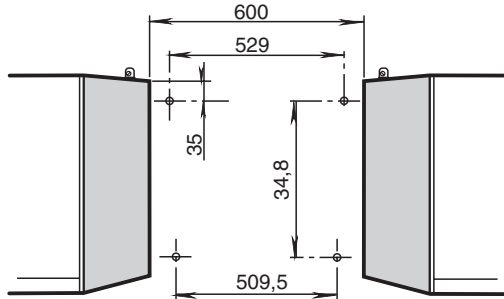

Fig. 10
- Drill four \varnothing 8mm holes on the wall as indicated. **Fig. 10.**